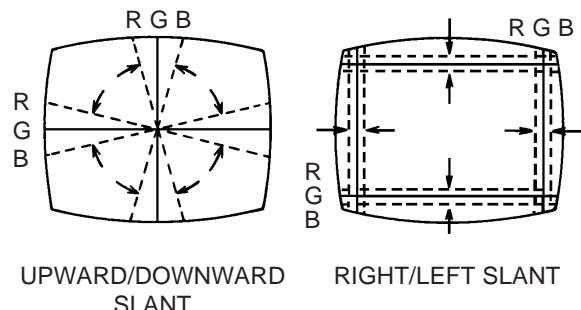

Fig. 4-2-a
2. Insert three wedges between the deflection yoke and CRT funnel to fix the deflection yoke. (**Refer to Fig. 4-2-b**)